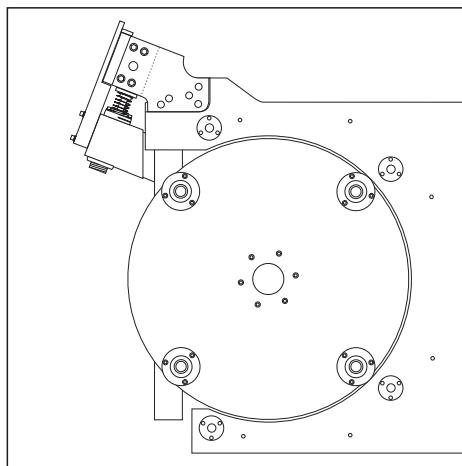

Figure 3-45.
4. Loosen the two SHCS that hold each of the hardstops (2) in place and remove hardstop(s). Manually rotate H-frame to its full rotational swing and perform an M12 (H-frame down).
7. Run pallet change commands and observe operation. (H-Frame full rotation shown in *Figure 3-45*.)